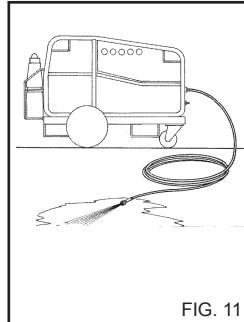

FIG. 11
Impurities could block the nozzle and cause malfunction (Fig. 11).
- 4) After using with detergent, flush out the intake circuit; place the detergent suction hose (fig. 11) in a tank of clean water and let the pump run for 1 minute with the dosing tap turned fully on and the lance in detergent delivery condition.